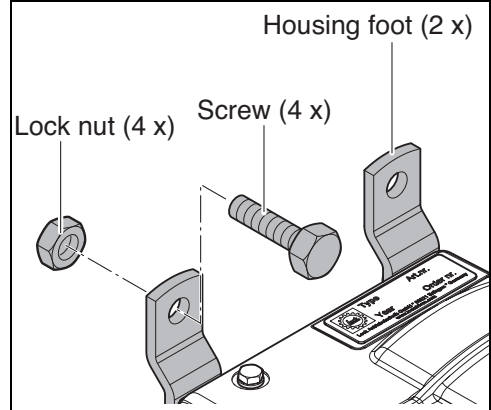

Fig. 3
- ▶ Fasten the drive loosely to the housing feet using four M10 screws and four lock nuts on the bracket. Minimum strength of screws 8.8 (see Fig. 3).